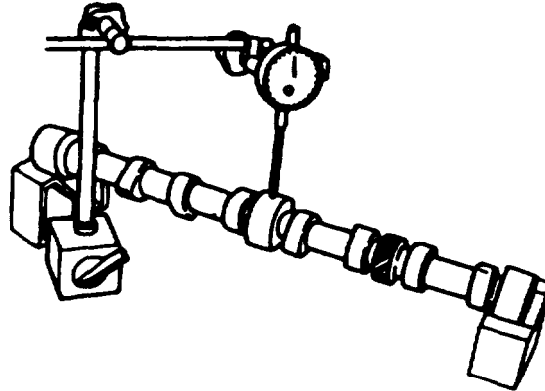

FIGURE 3-106. Camshaft Runout
- (1) Place camshaft on V-blocks.
- (2) Measure run-out with a dial indicator, refer to FIGURE 3-106.
- (3) Standard run-out is 0.002 in. (0.05 mm). If runout exceeds limit of 0.004 in. (0.10 mm), replace camshaft.